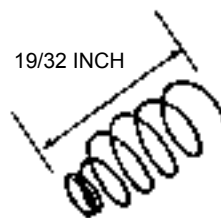

Figure 3.3.10A
- B. Inspect the loading spring. The overall free standing length must be greater than 19/32 in. (See Figure 3.3.10A). Look for flat spots on the spring windings. The springs that appear worn or do not meet the overall length requirements must be replaced. Reference Section 7.13 of this manual.